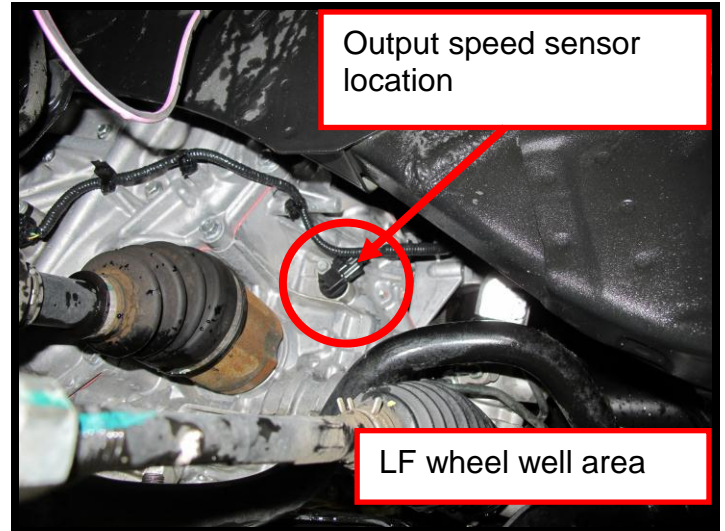

Figure 1
3. Look into driver side (LF) wheel well to locate the output speed sensor, see Figure 1.